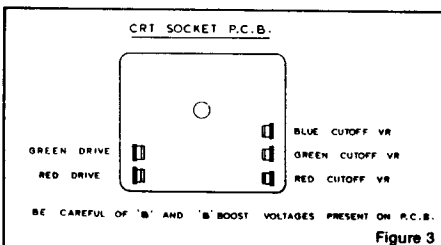

Figure 3
6.5 Turn off the green and blue fields and adjust setup controls to produce a red field. (See fig. 3)
Refer to figure 3. Do the following in subdued light.